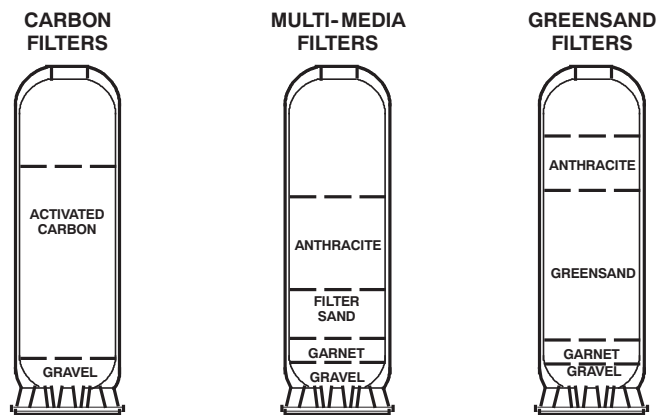

FIG. 2
6. Add the specified amount of resin (see page 3) or filtration media (see page 9) in the correct sequence, as shown in Figure 2. Use water sparingly to speed flow through the funnel. It may be necessary to siphon from the bottom of the distributor if tank becomes full of water.